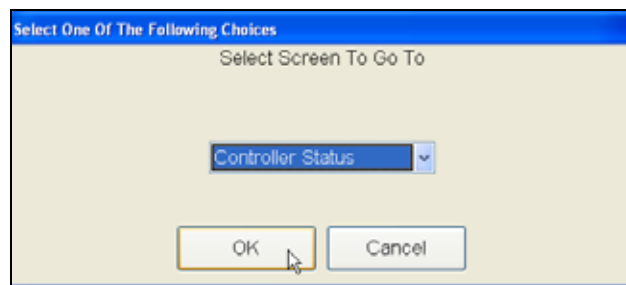

Figure 7.3.5
3. Click on the **DOWN** arrow to view the different screen selections (Figure 7.3.5).